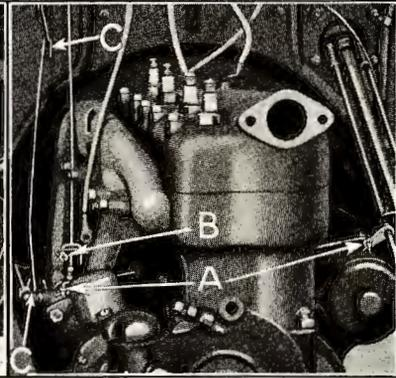

Fig. 28
- 25 **Remove carburetor pull rod** by withdrawing the two cotter pins which hold pull rod to carburetor throttle and throttle rod lever (See "A" Fig. 28).